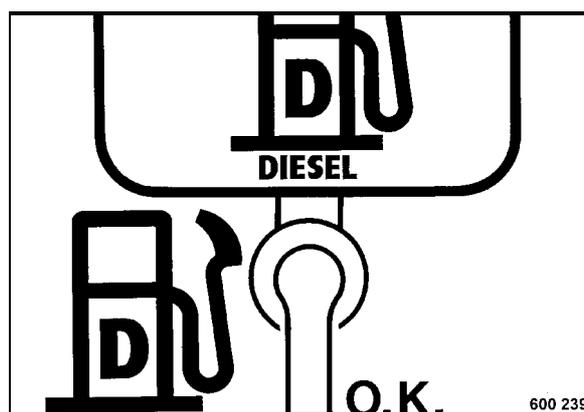

Fig. 31
- Set the fuel valve (Fig. 31) to O.K. (open).